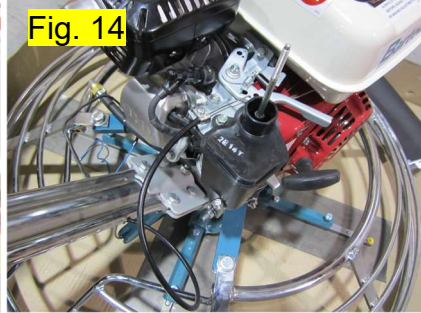

Fig. 12
Step 9: Install the throttle control wire into the throttle control lever. (Fig. 12)